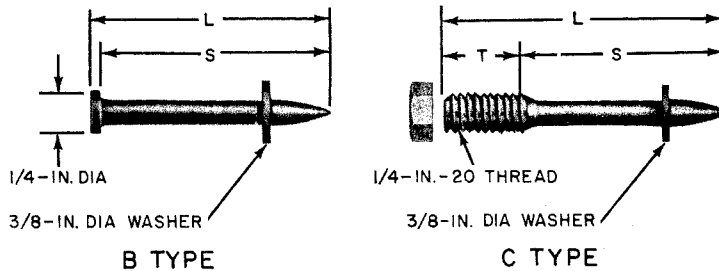

Fig. 21—Masonry Fasteners
5.08 Masonry Fasteners (Fig. 21): The B and C Masonry Fasteners are made of heat-treated steel and are used for making attachments to masonry surfaces. They are driven directly into masonry by means of a hand-operated masonry drive tool or the B Stud Driver. The description and operation of the hand-operated drive tool are covered in Section 080-123-101. The description and operation of the B Stud Driver are covered in 075-130-301. The B and C Masonry Fasteners are available in various lengths as designated by the size number in Table B.